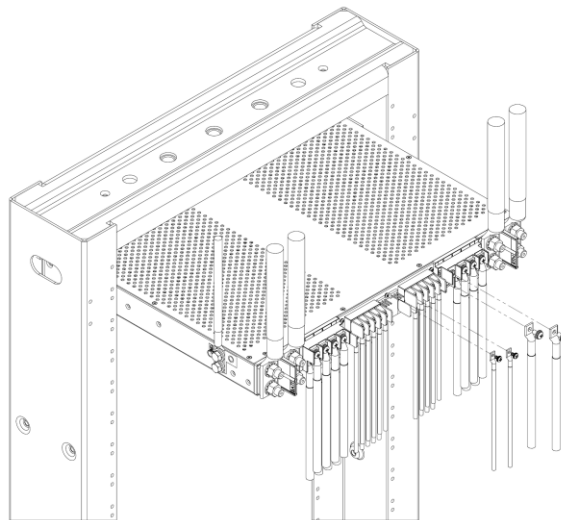

Fig. 2-15: Output Lugs
46. If required, lightly coat antioxidant on lugs and output BATT and RTN terminals and then connect lugs to terminals, as shown in Fig. 2-15. (NEC specifies only one lug and load at each output terminal.)